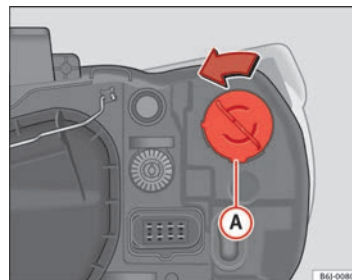

Fig. 143 Single turn signal lamp
- Turn bulb holder ⇒ Fig. 143 Ⓐ to the left and pull.